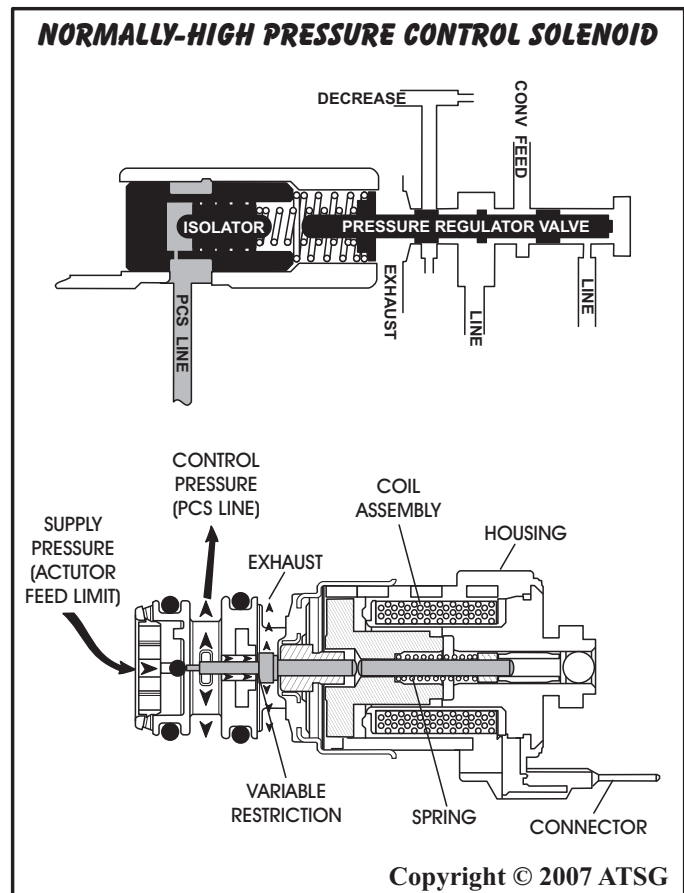

Figure 11
The line pressure (PC) solenoid is a precision electronic pressure regulator that controls line pressure based on current flow through its coil windings. The TCM varies current to the **"normally-high"** line pressure control (PC) solenoid from approximately 0.1 amp (maximum line pressure), to 1.0 amps (minimum line pressure). As current flow is increased, the magnetic field produced by the coil moves the solenoid's variable restriction further away from the exhaust port, as shown in Figure 11. Opening the exhaust port decreases the control pressure, which is routed to the isolator (boost) valve, as shown in Figure 11, which ultimately decreases line pressure. As the current flow is decreased, the reduced magnetic field allows the spring force to move the variable restriction to the left, as shown in Figure 11, closer to the exhaust port, increasing control pressure from the solenoid, which ultimately increases line pressure.